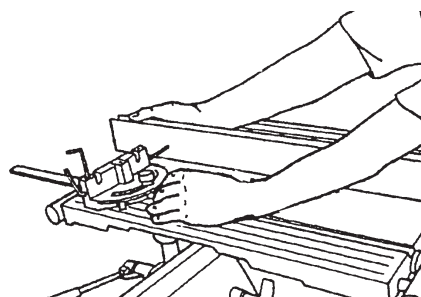

Figure 82
4. Slide the Miter Gauge back and forth in the Slot. See Figure 82. The tip of the Allen Wrench should keep in slight contact with the Rip Fence.